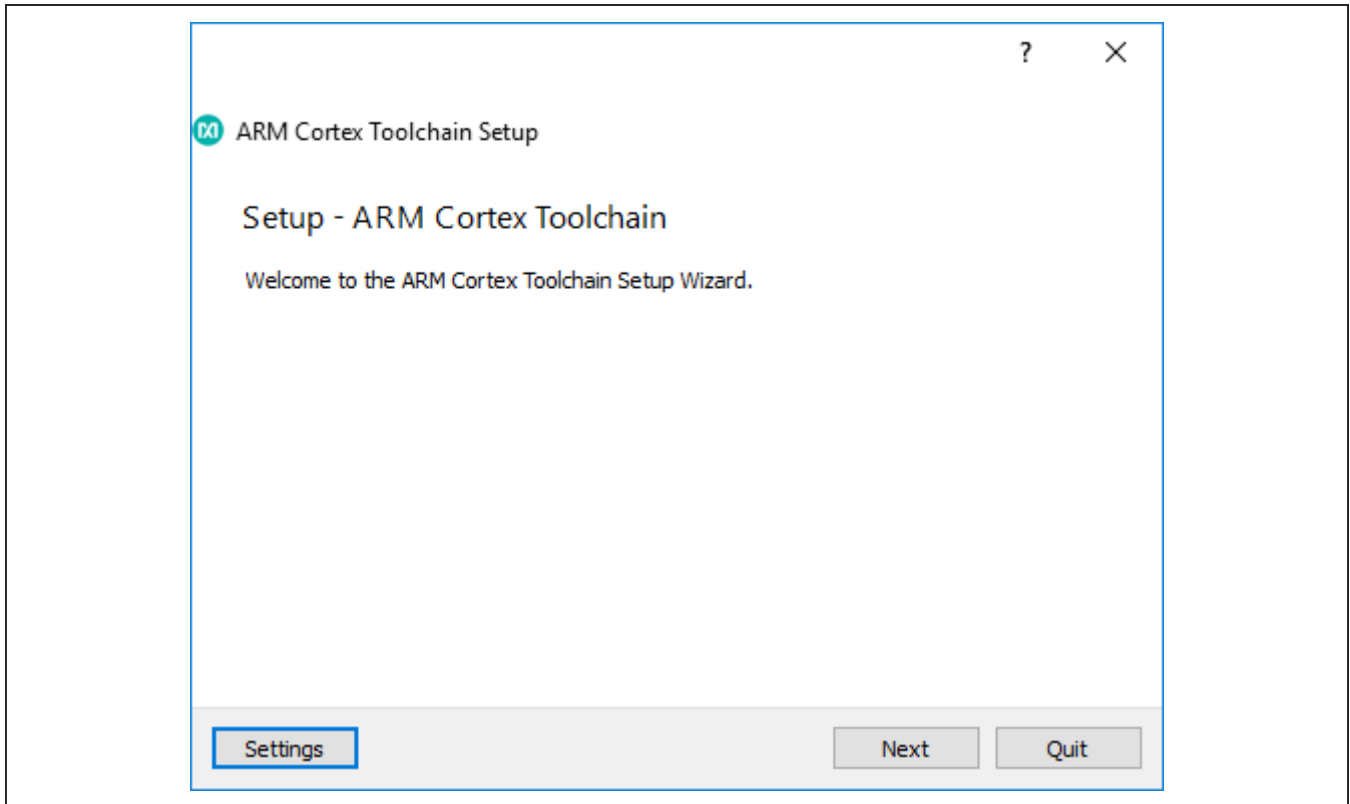

Figure 3. Toolchain setup wizard.
- 3) Follow the prompts in the setup wizard to finish the installation as shown in Figure 3.